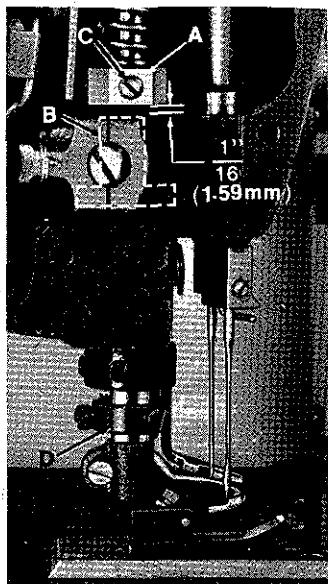

FIGURE 11
There should be approximately $\frac{1}{16}$ inch (1.59 mm) clearance between lower surface of the presser bar connection guide (A, Fig. 11) and the top of the spreader holder carrier (B), when the presser foot is resting on the throat plate, with the feed dog down below the throat plate.
If adjustment is needed, turn handwheel in operating direction until the needle bar is in the low position and loosen screw (C, Fig. 11). Then, while holding presser foot down on the throat plate surface, pry up presser bar connection and guide with a screwdriver to obtain the $\frac{1}{16}$ inch (1.59 mm) setting and tighten screw. Check setting by turning handwheel so that the needle bar is at its highest position and see if presser foot can be removed.